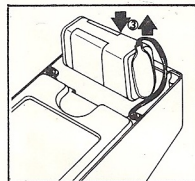

Fig. 2
- ① Connect the input jack to your instrument. The circuit is automatically turned on when a plug is inserted.
- ② **DISTORTION** — Depth of the distortion is increased as control is turned CW (clockwise).
- ③ **TONE** — Controls amount of high frequency contour. Flat at center position. CW increases highs, CCW (counter-clockwise) decreases highs.
- ④ **LEVEL** — Varies output level. Usually set at 1:1, NORMAL/EFFECT.
- ⑤ Soft touch FET electronic switch changes EFFECT/NORMAL.
- ⑥ LED indicator comes on when effect is on. If it is dim or does not light, replace the battery.
- ⑦ **EXT D.C.** — When using external D.C. supply, internal batteries are switched off.
- ① Push the tab marked "OPEN" and lift up.
- ② Replace the battery as shown in figure 2.
- ③ Put the battery cover into the groove and push to the end.